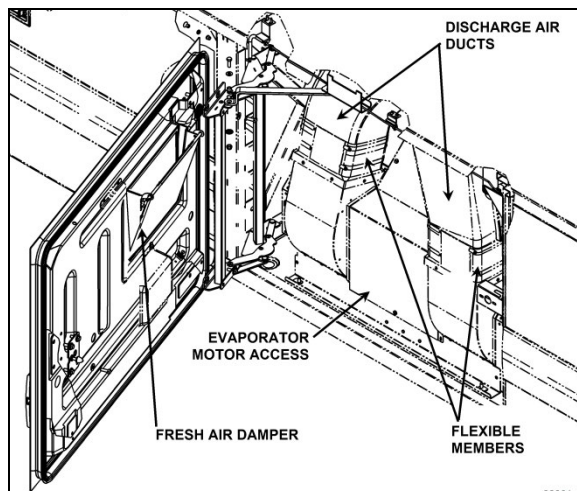

FIGURE 66: X3 SERIES PASSENGERS' AREA FRESH AIR DAMPER
- X3 Series - On the evaporator compartment door (Figure 66).